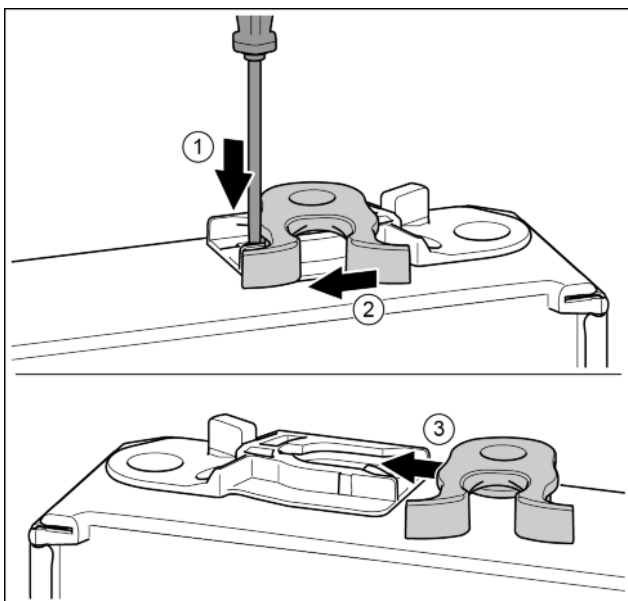

Fig. 18\*
- ▶ Push the tab downwards with a slotted screwdriver.\* Fig. 18 (1)
- ▶ Pull the door latch out of the guide.\* Fig. 18 (2)
- ▶ Push the door latch into the guide on the other side.\* Fig. 18 (3)